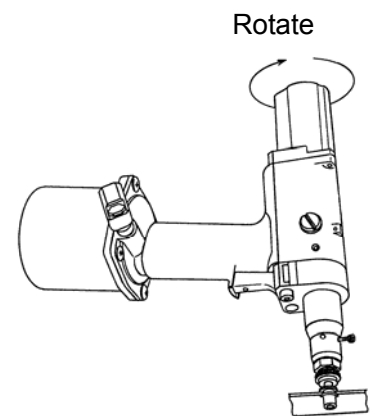

Figure 6-10
- d. Turn the body of the tool counterclockwise to detach it from the POP Nut (Figure 6-10).